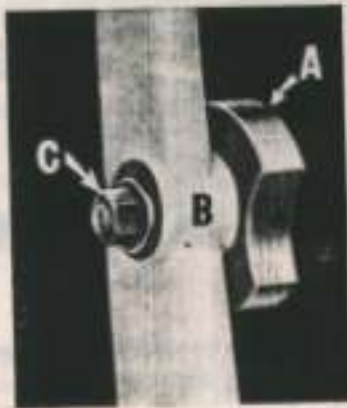
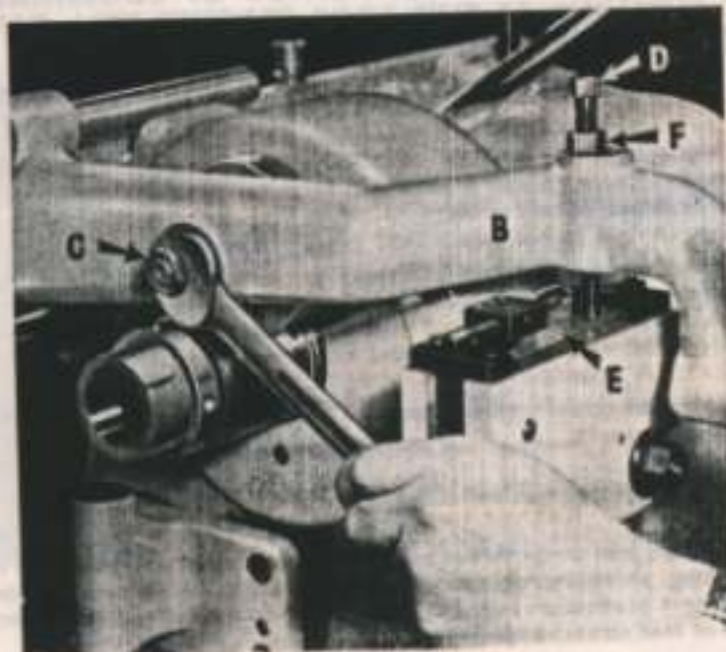

Figure 13
Figure 14
1. Apply the bronze lead screw follower "A" to the follower arm "B", Figure 13. The side of the follower stamped with the number corresponding to the pitch of the follower should be away from follower arm "B" as side not stamped is the surface held square and true for reference. Tighten nut "C" with fingers only—**DO NOT LOCK LEAD SCREW FOLLOWER** tight to follower arm until aligned with lead screw on spindle, per following instructions.
2. Bring lead screw follower arm "B", Figure 14, into operating position as shown.
3. With lead screw follower "A", Figure 13, loose, engage it, with lead screw and back of guide screw "D", as shown in Figure 14, until end of guide screw "D" does not bear on guideway "E" of automatic thread length control. This will allow lead screw follower to seat full depth into thread of lead screw. It may be necessary to rotate spindle slightly to engage follower properly. This may be done by hand or by jogging motor using Reverse-Forward control lever. Guideway "E" must be in position shown in Figure 14 when setting follower—**Not** in raised position as shown in Figure 16.
Figure 16 shows the guideway "E" in the raised or released position. To operate automatic thread length control by hand, press guideway "E" down to locked position as shown in Figures 14 and 15. To release pull stop screw "A", Figure 16, to the left.
Threading tool can be set in tool holder "H" in an approximate position. Adjust threading head until threading tool is about $\frac{1}{4}$ " from end of work. (When setting threading head be sure follower arm "B", Figure 14, is to the extreme right against headstock.)
Removable bracket "A" and guide block "B", Figure 22, are supplied as standard equipment with the HCT model chucking machine. The support bracket is used to give added support to threading unit guide bar when cutting of coarse pitch thread and/or when long work makes it necessary to mount the threading head toward the outer end of guide bar. Position guide block "B" on turret, as shown, and clamp in place with T-bolt. Then swing production threading unit into cutting position. Lead screw must be engaged with follower and guideway of thread length control in the "down" position, as shown in Figure 14. To level or align guide block "B" with spindle apply
When properly set up, guide bar support bracket "A" will govern the parallelism of the thread. Screw "D" should be advanced so that it touches the guide block "B" and leaves .001" to .002" clearance between guide screw "D", Figure 14, and guideway "E", Figure 14. After proper adjustment has been made, tighten lock nut "E", Figure 22, to retain adjustment.